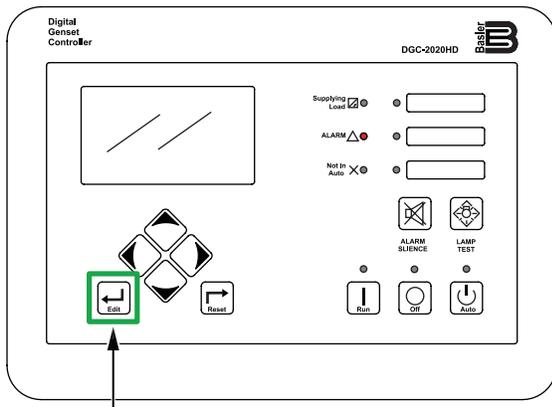

Figure 84. Digital Controller (Edit Button)
4. After the Escape Mode Request changes from **OFF** to **ON**, press the **Edit button** (Figure 84).